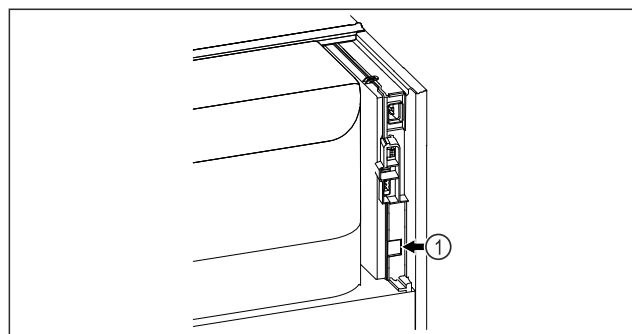

Fig. 100
- ❑ SmartModule Fig. 100 (1) is in use.